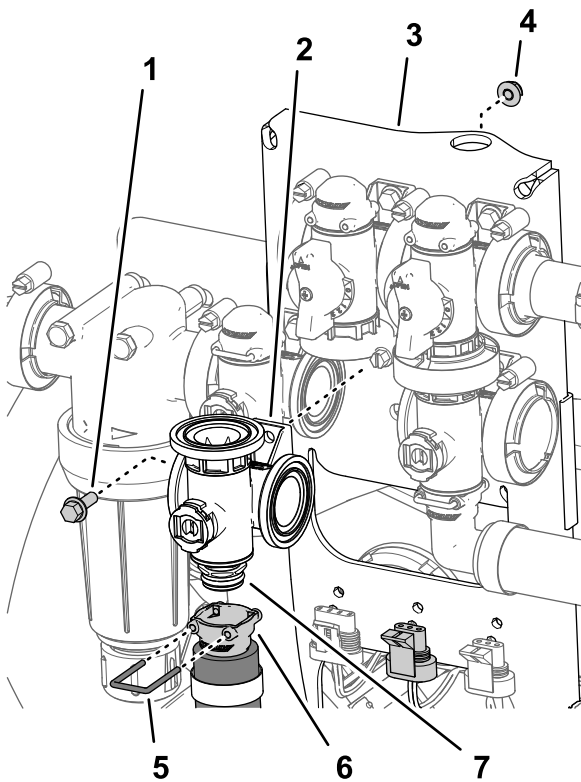

Figure 116
- Remove the retainer that secure the quick-disconnect socket to the manifold quick-disconnect coupling for the agitation valve (Figure 116).
- Remove the flange-head bolt (1/4 x 3/4 inch) and flange locknut (1/4 inch) that secure the agitation valve to the valve mount and remove the valve manifold from the machine (Figure 116).